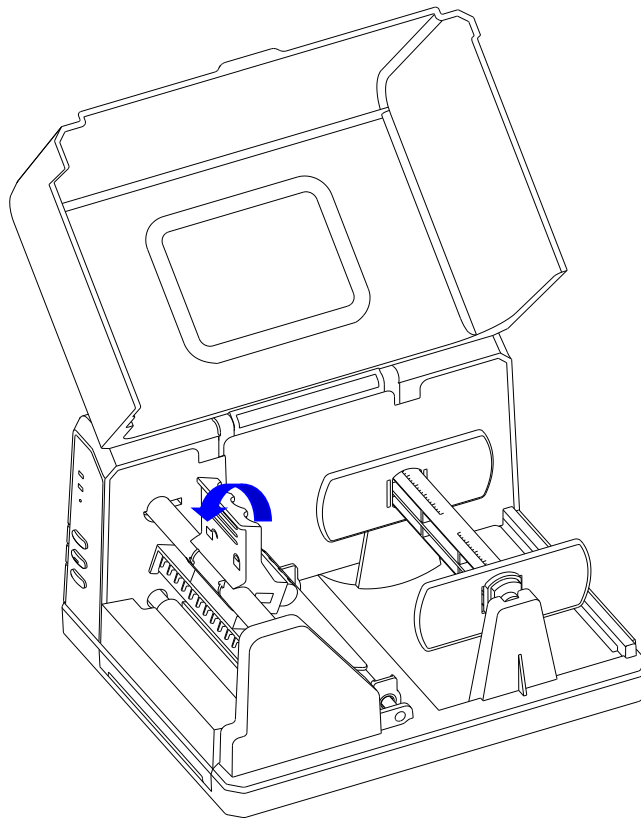

Figure 2-4 Lift the Handle
1. Lift the right cover of the printer and lift the Handle of the Printhead, as shown in Figure 2-4.